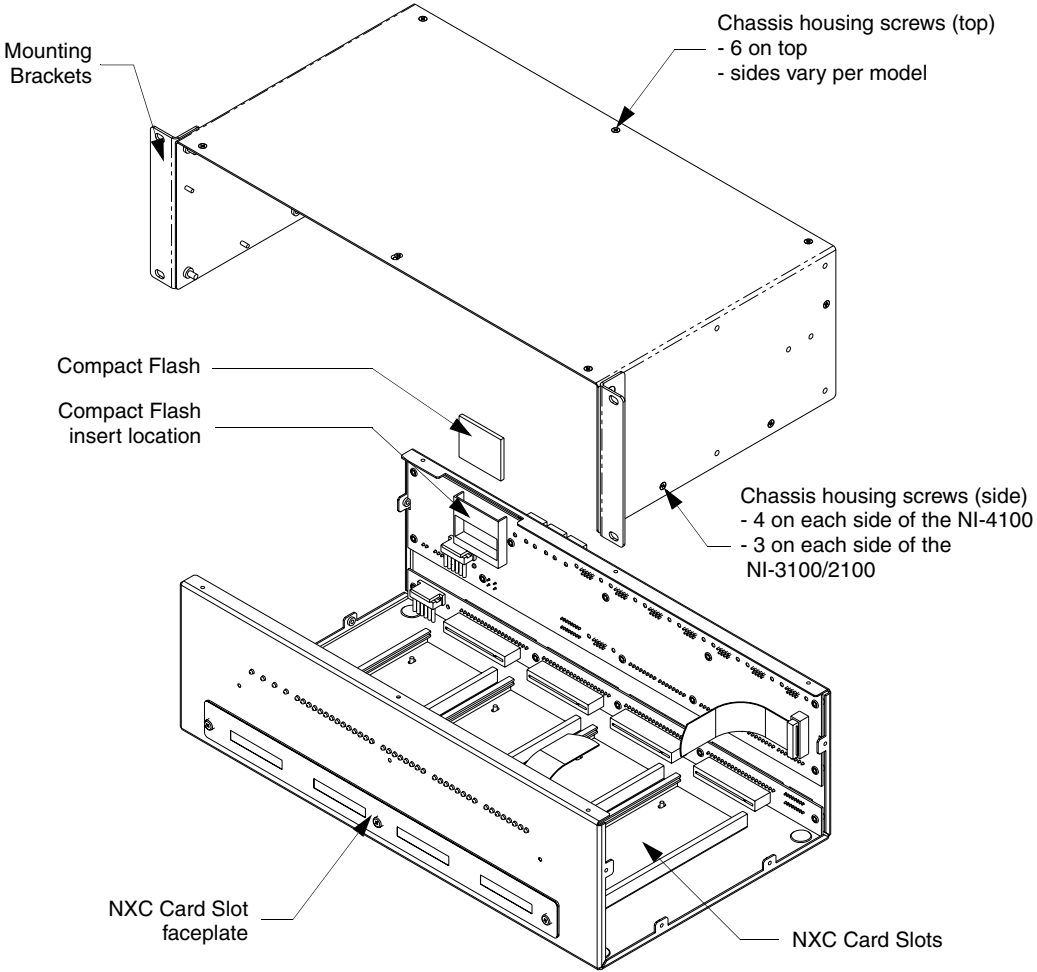

FIG. 17 Location of the Compact Flash within a sample Integrated Controller
- Remove the chassis housing screws from both the sides and top of the Controller, as shown in FIG. 17 by using a grounded screwdriver turning in a counter-clockwise rotation.
- Carefully pull-up and remove the housing up and away from the Controller to expose the internal circuit board (FIG. 17).
- Locate the existing Compact Flash card on the main board. For more detailed information on component locations, refer to FIG. 17.
3. Insert the chassis housing screws into their respective locations, as shown in FIG. 17.